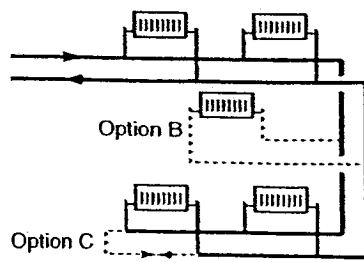
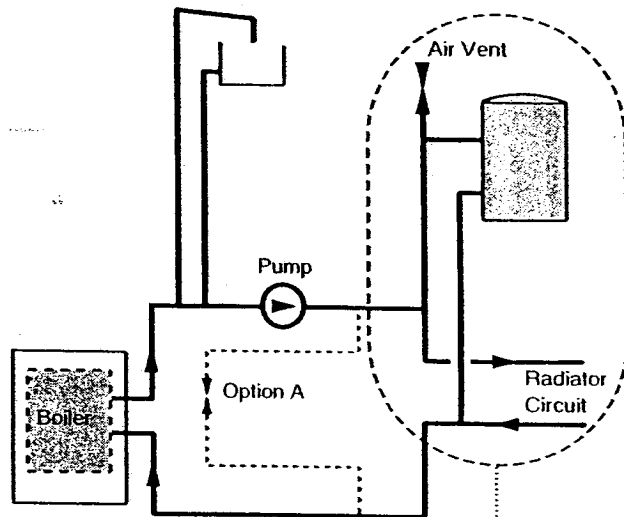

Fig. 1
Fig. 2
- For 30/40/50 PF a minimum of 8 metres of 22mm pipe, for 60/70/80 PF a minimum of 8 metres of 28mm pipe (measured between the boiler flow and return connections). It should be fitted with a lock shield valve opened at least 1 full turn to give a minimum flow rate of 8 litres/min (1.8 gal/min) (Option C, Fig. 1 & Option A, Fig. 2).
- A radiator fitted with lock shield valves. The radiator output should be a minimum of 800 watts (2,700 Btu/h). Typically a convector type radiator with an area of 3750 cm2 (4 sq ft) is adequate (Option B, Fig. 1).
- Any circuit that provides the same operating conditions as option A or option B (Figs. 1 & 2).